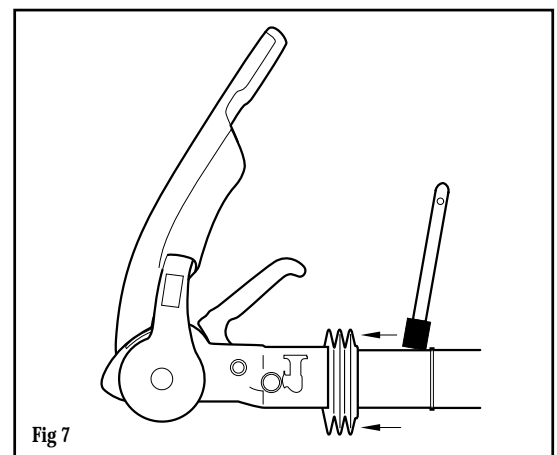

Fig 7
- ✎ Remove the locking bolt socket key. (fig 7).